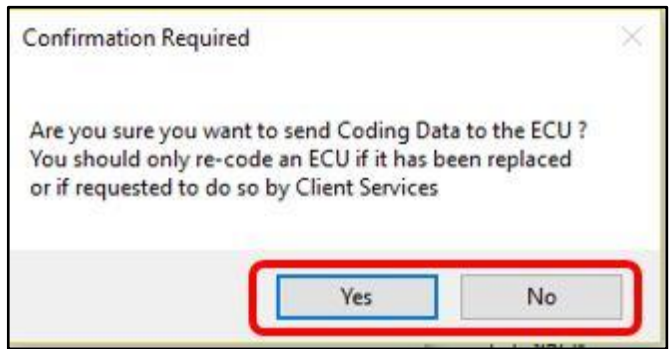

Figure 7
12. Select "Yes" (refer to Figure 7).